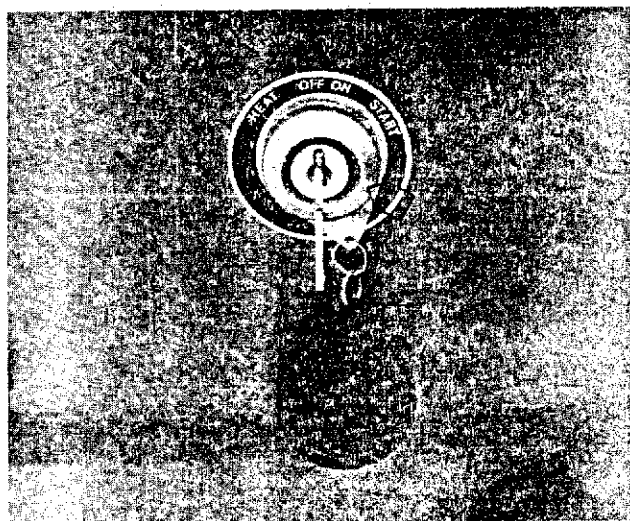

Figure 15 — Starter Switch
3. Turn the starter switch to the "start" position, Figure 15. When the engine starts, release the key. Check to be sure the warning lights go out. If the engine fails to start after cranking for approximately 10 seconds, refer to the following "COLD WEATHER STARTING" information.
Push the hand throttle fully forward past idle position to stop the engine, then turn the starter switch, Figure 15, to the "Off" position.